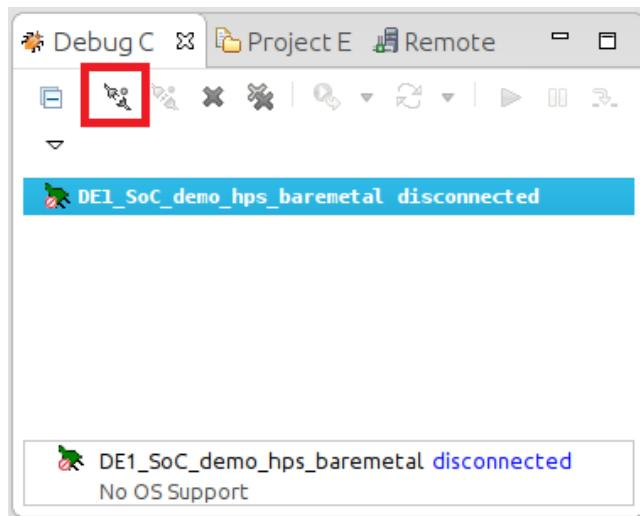

Figure 8-38. Debug Control View
31. In the “Debug Control” view, click on the “DE1_SoC_demo_hps_baremetal” entry, then click on the “Connect to Target” button, as shown on Figure 8-38. Our debug script will load and execute the preloader, then it will load and wait at our application’s “main()” function.